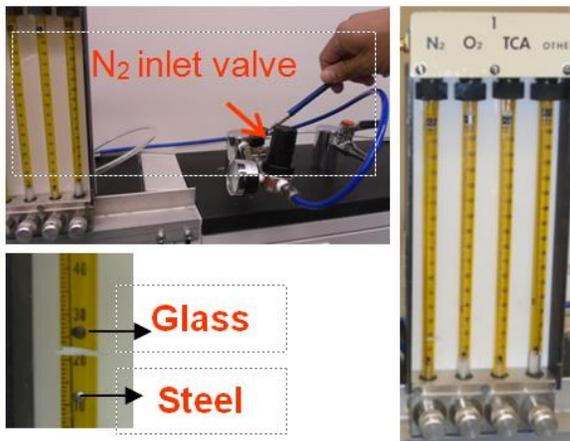

Fig.2 Control Panel of furnace
2. Purge oxygen from the furnace using nitrogen gas for 2 minutes. To do this, open the valve on nitrogen source and set the nitrogen flow through the furnace to 1L/min by setting the glass ball at an appropriate value using the charts provided (see Fig.2).
7. Close the furnace; close nitrogen flow, wait for 2 minutes and then open the valve on oxygen cylinder and set flow with a constant flow rate of 1 L/min. Measure the oxygen flow rate using the glass float in the rotameter (see Fig.2) and the provided charts.